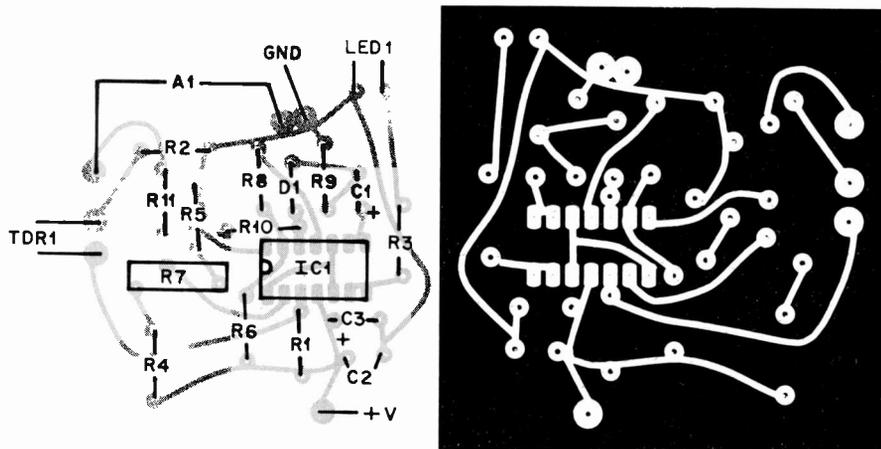

Fig. 5. Actual-size etching and drilling guide for a printed circuit board for the Infrared Road Icing Alert is shown above right. Component layout above left.
Another inverting op-amp circuit that can be used for in-circuit resistance measurement appears in Fig. 5. Here, the resistance to be measured ( $R1$ ) functions as the stage's input resistance and a constant-voltage source drives the network. The output voltage generated by the op amp is *inversely* proportional to the value of the component to be measured, and is monitored by a voltmeter placed across the feedback resistor. As was the case in the previous circuit, feedback forces the HIGH TERMINAL to virtually ground potential. No voltage drop exists across  $R2$ , so the desired isolation of  $R1$  is achieved. Shunt component  $R3$  has no effect on the resistance measurement because it is connected directly across the constant-voltage source.
**Circuit Construction.** Although the circuit is simple enough to use direct point-to-point wiring on conventional perforated board, an actual-size foil pattern is shown in Fig. 5 along with the component installation. Note that TDR1, F1, S1 and A1 are not mounted on the small board. Though a single-turn potentiometer can be used for R7, a 10-turn type is recommended. If your alarm (A1) is a 6-volt version, use R11. If A1 is a 12-volt type, R11 can be eliminated. Resistor R8 determines the "on" time for the alarm. Making this resistor smaller in value increases the A1 "on" time. Conversely, for a shorter "beep," increase the value of R8 to 3.3 kΩ.